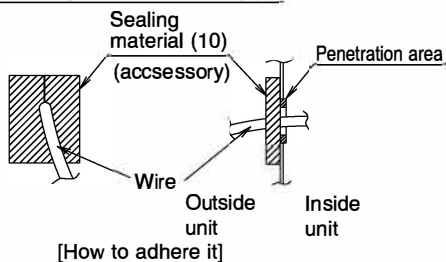

Fig. 14
Securely clamp the cables with the clamps (7)(8) offered as accessories as shown in Fig. 14 so that tension will not be applied on the cable connection areas.
- Wire only after removing the control box lid as shown in Fig. 14.
- Wrap the strong and weak electric lines with the sealing material (10) as shown in the figure below. (Otherwise, moisture or small creatures such as insects from the outside may cause short-circuit inside the control box.) Attach securely so that there are no gaps.
- When clamping the wiring, use the included clamp material (7) and (8) as shown in the Fig.14 to prevent outside pressure being exerted on the wiring connections and clamp firmly.